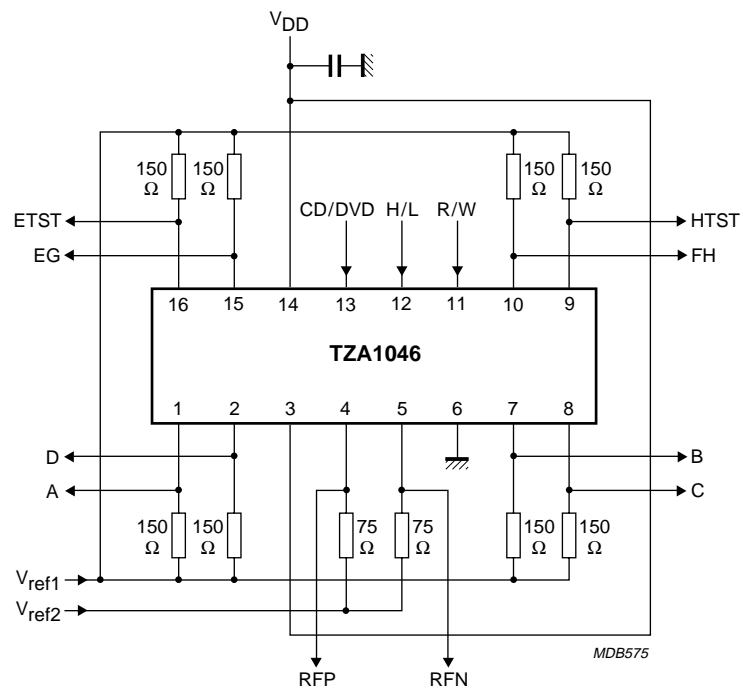

Fig.6 Application example.
$V_{\text{ref}} = V_{\text{ref1}} = V_{\text{ref2}}$; see Fig.6.
1. The sensitivity of the TZA1046 is specified in A/W because it has current outputs. In the application diagram (see Fig.6) the resistors of 150 Ω convert the currents into voltages. The maximum absolute spread is $\pm 20\%$.
An application example for the TZA1046 is shown in Fig.6. The satellite segment pins are cross-coupled to be suitable for rewritable applications.